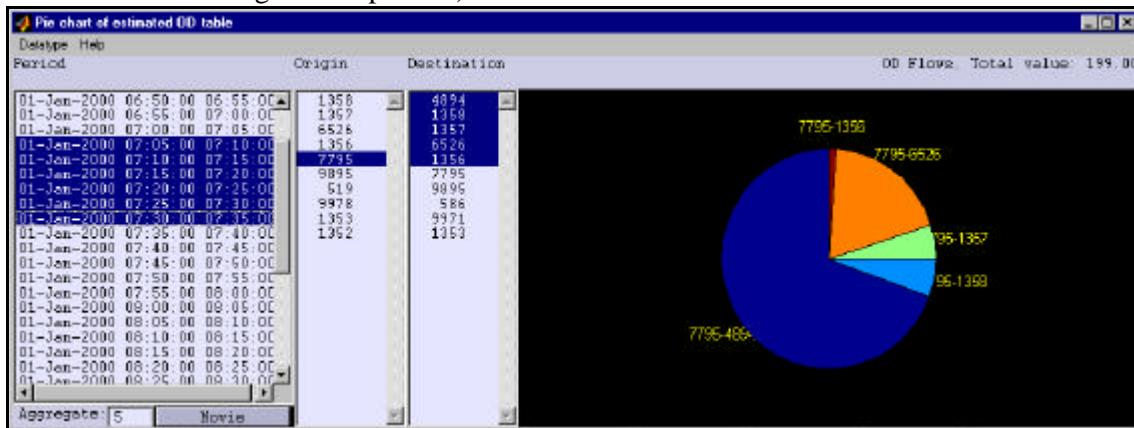

Figure 14: Pie chart of O/D flow and split proportions for the selected periods.
- ◆ Select “Plot OD flows and OD splits” from the menu “OD matrix”. This activates the interface shown in Figure 14. The OD matrix will be plotted as a pie diagram for the selected periods, origins and destinations . You can try the following: